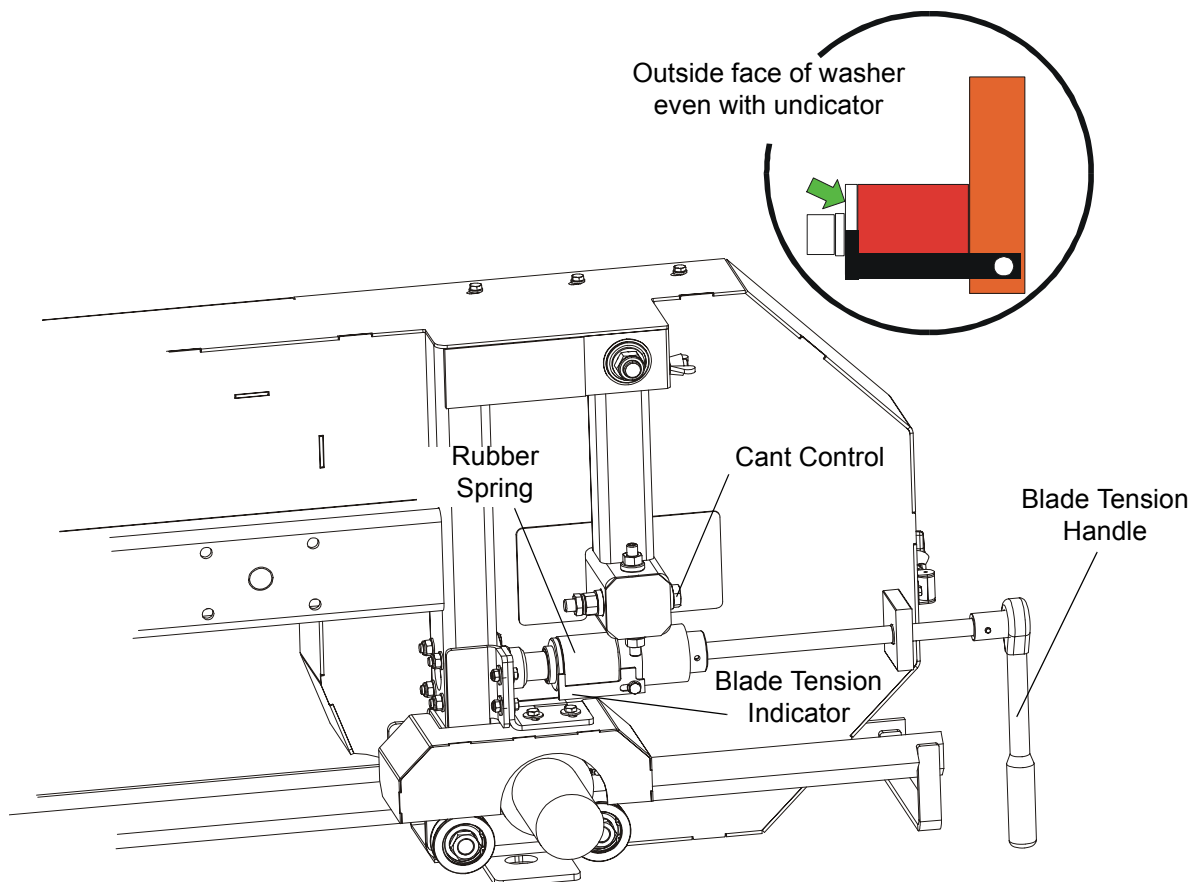

FIG. 2-8
See Figure 2-8. Turn the blade tension handle clockwise to compress the rubber spring and tension the blade. Check the blade tension occasionally when adjusting the cant control or while cutting. As the blade and belts heat up and stretch, the blade tension will change. Also, ambient temperature changes can cause tension to change. Adjust the tension handle as necessary so that the indicator is parallel to the blade guide arm.
5. Use the cant adjustment bolt, shown in **Figure 2-8** to adjust where the blade travels on the blade wheels.